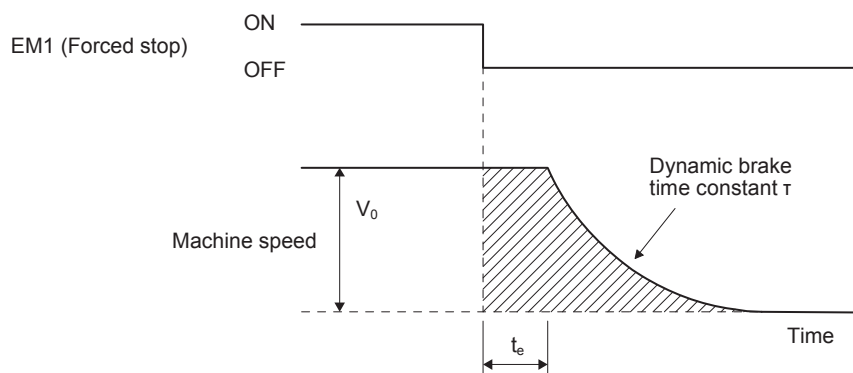

Fig. 10.3 Dynamic brake operation diagram
(1) Calculation of coasting distance
Fig. 10.3 shows the pattern in which the servo motor comes to a stop when the dynamic brake is operated. Use equation 10.2 to calculate an approximate coasting distance to a stop. The dynamic brake time constant τ varies with the servo motor and machine operation speeds. (Refer to (2)(a), (b) of this section.)